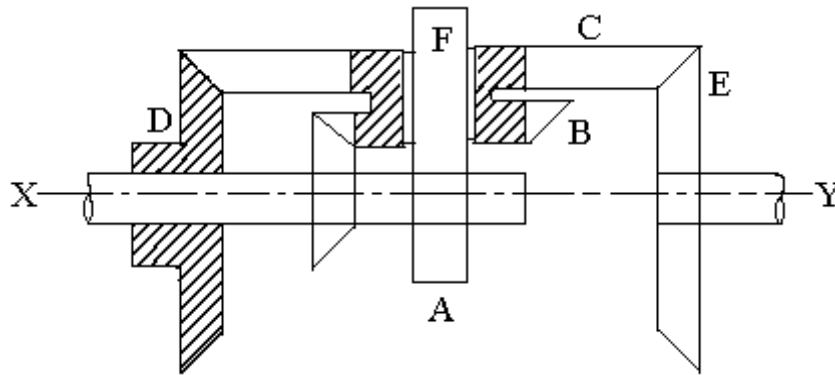

Figure 2:
8. An epicyclic gear consists of bevel wheels as shown in Figure 2. The driving pinion A has 20 teeth and meshes with the wheel B which has 25 teeth. The wheels B and C are fixed together and turn freely on the Shaft F. The shaft F can rotate freely about the main axis XX. The wheel C has 50 teeth and meshes with wheels D and E, each of which has 60 teeth. Find the speed and direction of E when A rotates at 200 r.p.m. if 1. D is fixed and 2. D rotates at 100 r.p.m. in the same direction as A. In both the cases, find the ratio of the torques transmitted by the shafts of the wheels A and E, the friction being neglected.